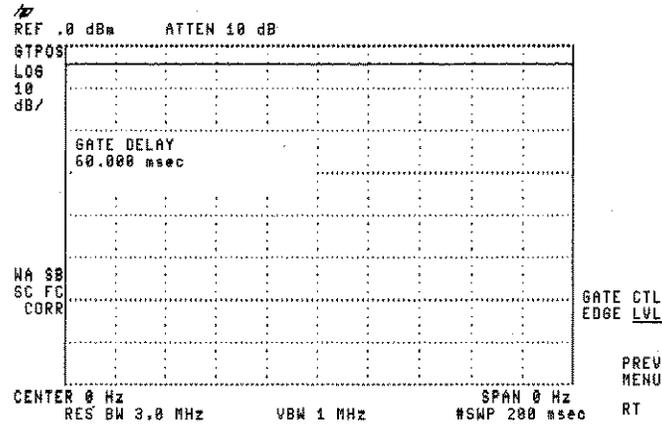

Figure 4-33. Using the Level Gate Control
4. To check the gate control function, press **SWEEP**, **Gate Control**, **GATE CTL EDGE LVL** so that **LVL** (level) is underlined. (See Figure 4-33.)